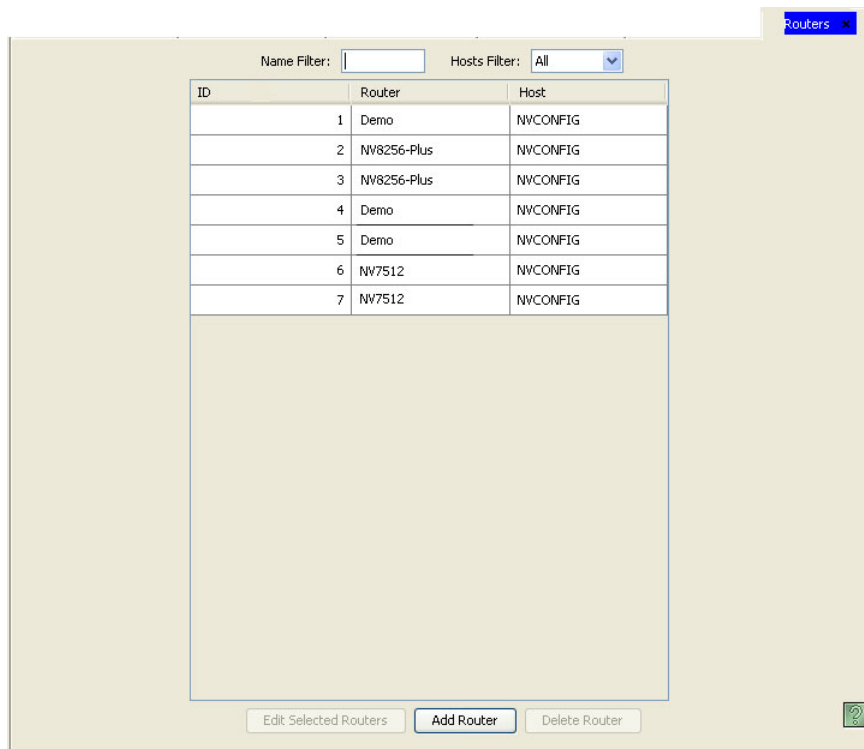

Figure 7-24. Routers Page
- 1 From the Navigation area, select the 'Configuration' pane and then 'Routers'. The 'Routers' page displays, as shown in Figure 7-24.